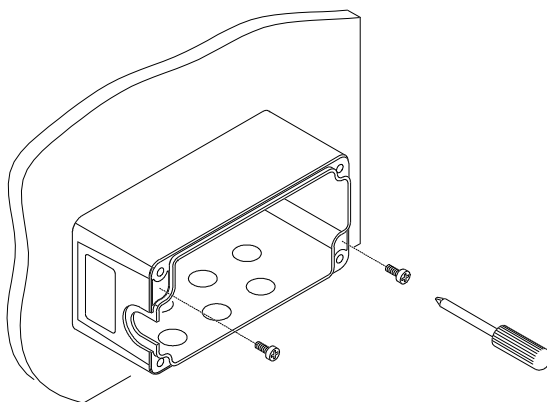

Figure 2.7 - Mounting JBOX
- 2) Align the junction box and insert the two self-threading screws with their washers and screw them into the panel until tight (see Figure 2.7).